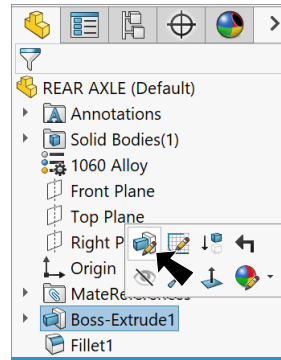

Fig. 15
Step 1. Click **Boss-Extrude1**  in the Feature Manager and click **Edit Feature**  in the context toolbar, **Fig. 15**.